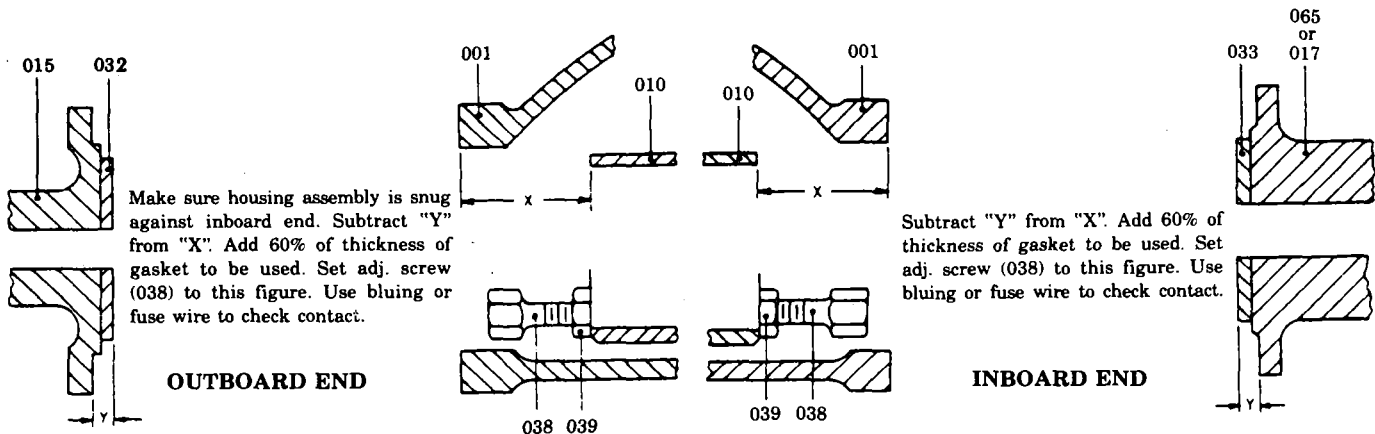
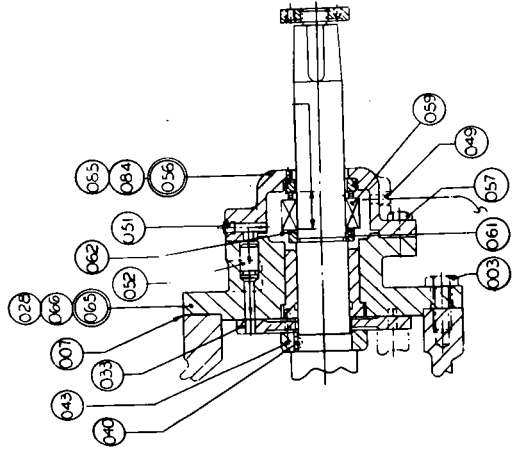
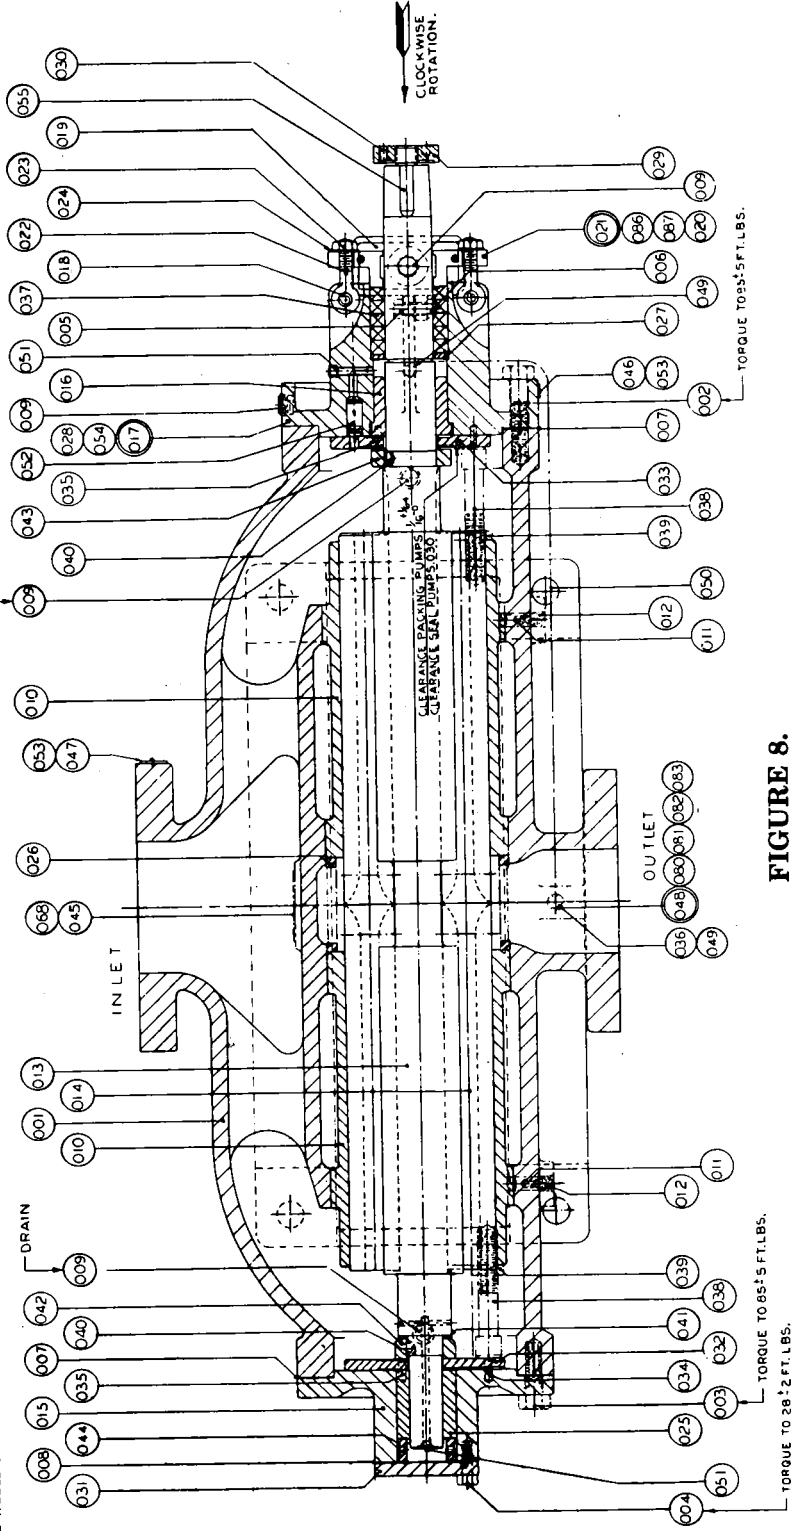
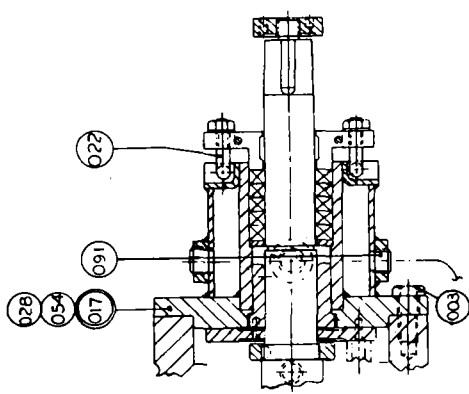

FIGURE 7. Setting of Housing Adjusting Screws
FIGURE 9. VIEW OF INBOARD END COVER SEAL WITH O-RING SEAT.
FIGURE 8.
FIGURE 14. VIEW OF INBOARD END WITH WELDED PACKING BOX COVER
Figures 9, 10, 11 and 12: Remove bolts (003), inboard cover sub-assembly (065) and gasket (007). Removal of inboard cover (065) includes removal of spring pins (028), check valve (052), bushing (016), pins (035) and block (033). If bushing is to be replaced, remove block (033) and bushing (016) from cover (065). Unless check valve is to be replaced, no further disassembly of cover sub-assembly (065) is necessary.
Figures 8, 13 and 14: Coat bushing (016) with oil and place bushing (016) in inboard cover sub-assembly (017). Align block (033) with spring pin (035) in bushing (016) and spring pin in cover sub-assembly (017) and install block (033) on inboard cover sub-assembly (017).
Figures 9, 10, 11 and 12: Coat bushing (016) with oil and place bushing (016) in inboard cover sub-assembly (065). Align block (033) with spring pin (035) in bushing (016) and spring pin in cover sub-assembly (065) and install block (033) on inboard cover sub-assembly (065).
STEP 4. All Pumps: Coat bushing (025) and spacer (044) with oil and slide bushing (025) and spacer (044) in outboard cover (015). Align block (032) with spring pins (034 and 035) in bushing (025) and outboard cover (015) and install block (033) on cover (015). Install gasket (008) and cover (031) on outboard cover (015) using bolts (004). Torque bolts (004) to 28 lbs ft. (± 2 lbs. ft.).
STEP 5. All Pumps: Adjust screws (038) on inboard and outboard ends of housings as outlined in Figure 7. Correct adjustment should be verified for inboard end before adjusting screws on outboard end. Place bluing or fuse wire on heads of capscrews (038). Install inboard cover (assembled in Step 3) as follows:
Figures 8, 13 and 14: Attach inboard cover sub-assembly (017) and gasket (007) on case (001) using bolts (002, Figures 8 and 13) or (003, Figure 14). Torque bolts (002 or 003) to 85 lbs ft. (± 5 lbs. ft.).
Figures 9, 10, 11 and 12: Attach inboard cover sub-assembly (065) and gasket (007) on case (001) using bolts (003). Torque bolts (003) to 85 lbs ft. (± 5 lbs. ft.).
All Pumps: Install assembled outboard cover (015) (assembled in step 4) and gasket (007) to case (001) using bolts (003). Torque bolts (003) to 85 lbs ft. (± 5 lbs. ft.). Remove inboard cover and verify capscrew (038) contact on block (033). Adjust capscrews (038) as necessary. Ensure jam nuts (039) are locked tight. Install inboard cover as outlined above per Figure Numbers. Torque bolts (002) to 85 lbs ft. (± 5 lbs. ft.) on Figures 8, 13 and 14. Torque bolts (003) to 85 lbs ft. (± 5 lbs. ft.) on Figures 9, 10, 11 and 12. With proper adjustment verified for inboard end capscrews (038), perform procedure outlined for adjusting screws on outboard end, Figure 7. Remove outboard cover (015) and check for contact between block (032) and screws (038). Adjust capscrews (038) as necessary. Ensure jam nuts (039) are locked tight. Outboard cover (015) will be re-installed in Step 8. **CAUTION:** Do not exceed 0.003" pressure on capscrews (038) to avoid distortion of rotor housing bores.
STEP 6. All Pumps: Place key (040) in inboard key slot of power rotor (013). Align inboard collar (043) with key (040) and slide collar (043) on power rotor (013). Slide shim (041) on outboard end of power rotor (013). Place key (040) in power rotor outboard end key slot. Align outboard collar (042) with key (040) and slide collar (042) on power rotor (013).
STEP 7. All Pumps: Coat assembled power rotor (013) and idlers (014) with oil. Slide rotor assembly, power rotor (013) and idlers (014), in pump from outboard end. Power rotor and idlers should be in mesh for ease of insertion into rotor bores.
STEP 8. All Pumps: Install assembled outboard cover (015) and gasket (007) to case (001) using bolts (003). Torque bolts (003) to 85 lbs ft. (± 5 lbs. ft.).
STEP 9. All Pumps: Mount a dial indicator on inboard cover to measure power rotor (013) end clearance (axial movement). Axial movement should be $\frac{1}{16}$ -inch ($+\frac{1}{64}$ -inch, -0) for packing pumps (Figures 8, 13 and 14) or 0.030-inch ($+0.005$ -inch, -0) on pumps equipped with a mechanical seal (Figures 9, 10, 11 and 12). If end clearance must be adjusted, remove outboard cover (015) collar (042) and key (040). Add or remove layers of shim (041) to obtain desired clearance. Replace key (040) and outboard collar (042). Replace outboard cover (015) and torque bolts (003) to 85 lbs ft. (± 5 lbs. ft.).
STEP 10. Install Packing or Mechanical Seal and cover. NOTE: Figures 8, 13 and 14 are packing pumps. Figures 9, 10, 11 and 12 are pumps with mechanical seals.
Figures 8, 13 and 14: Slide washer (027) in inboard cover (017). Install five new packing rings (037) in gland sub-assembly (021). Set each packing ring individually and firmly in place, starting with one ring of hard packing, followed with one ring of soft packing, etc. to end with another ring of hard packing. Slide packing gland sub-assembly (021) on power rotor (013). Install capscrews (020) in glands (086 and 087). Turn gland bolts (022) parallel with power rotor (013) and slide packing gland sub-assembly (021) to packing bore of power rotor (013). Slide washers (024) on gland bolts (022) and install nuts (023). Tighten gland nuts (023) evenly and hand tight. NOTE: If plugs (009) and 051, Figures 8 and 13) or (091, Figure 14) were removed during disassembly, install plugs in case (001).
Figures 9, 10, 11 and 12: Install gasket (058) and seal cover (056) on inboard cover (065) using bolts (057). Torque bolts (057) to 55 lbs ft. (± 5 lbs. ft.). Pull power rotor in axial direction until inboard collar (043) is in contact with block (033). Mark power rotor shaft where it starts to extend through seal cover (056) to use as a reference point for setting operating length of mechanical seal. Remove bolts (057), seal cover (056) and gasket (058). Slide spacer (061) and shim (062) on power rotor (013) until spacer is in contact with step-cut shoulder of power rotor. Measure distance from power rotor scribe mark back to nearest surface of spacer (061). Identify measured distance as "X" to be used in determining seal working length. Determine required working length of mechanical seal from Table 2 and identify length as distance "S." Continue assembly per applicable Figure Number.
Figures 9, 10, 11 and 12: Install O-ring (2, Figures 3, 4, 5 or 6) on seal seat (1, Figures 3, 4, 5, or 6) or grommet (2A, Figures 3 or 4) on seal seat (1A, Figures 3 or 4). Slide assembled seal seat in seal cover sub-assembly (065).
STEP 11. *Figures 9, 10, 11 and 12:* Install gasket (058) and seal cover sub-assembly (056) using bolts (057). Torque bolts (057) to 55 lbs ft. (± 5 lbs. ft.).
STEP 12. *Figures 8 and 13 only:* Install drip cup (019) with bolt (006) and nut (005).
STEP 13. *All Pumps:* Install key (055) in key slot of power rotor and slide coupling hub on power rotor (013). Install setscrew (030) and checknut (029).
LIST OF MATERIAL FOR FIGURES 8 THROUGH 14